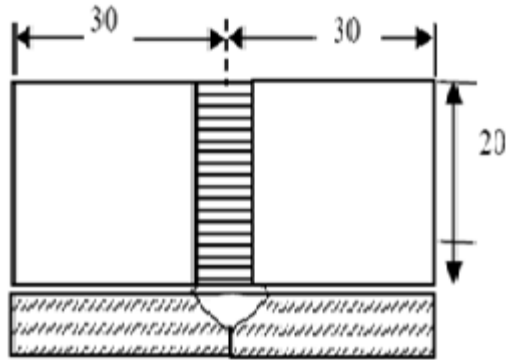

Fig.5: Welding specimen for practice
v) WELDING (GAS WELDING) (in 1 class or 3 hours); To join two thin mild steel plates or sheets (1 to 3 mm thick) as shown in Fig. 5 by gas welding.
- vi) WELDING (ARC WELDING) (in 1 day or 3 hours); To join two thick (6mm) MS plate as shown in Fig. 5 by arc welding.